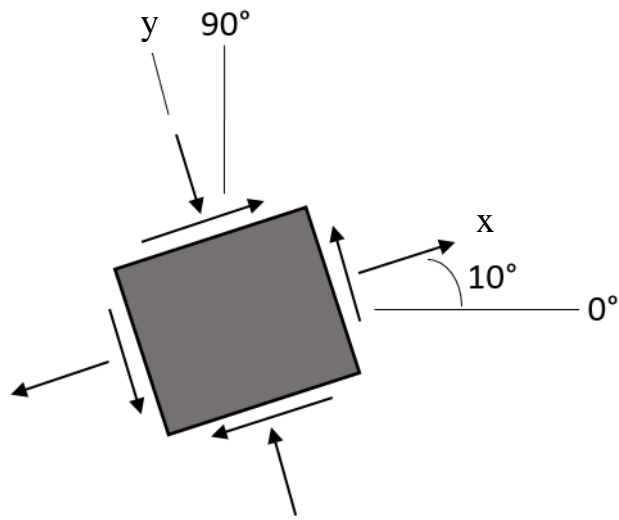

Figure 9 / Rajah 9
6. Determine the equivalent state of stress on an element at the same point for the following cases with respect to the element shown in **Figure 9** using Mohr's circle. Normal stress in x and y directions are 50 N/mm^2 and 70 N/mm^2 , respectively, while shear stress is 30 N/mm^2 . Sketch the corresponding element for each result.